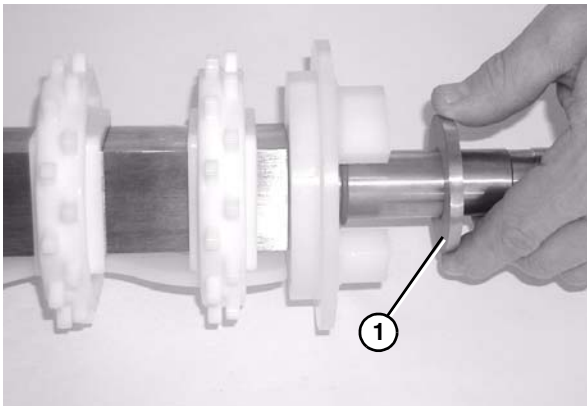

Figure 70
6. Install washer (**Figure 70, item 1**) onto spindle shaft.